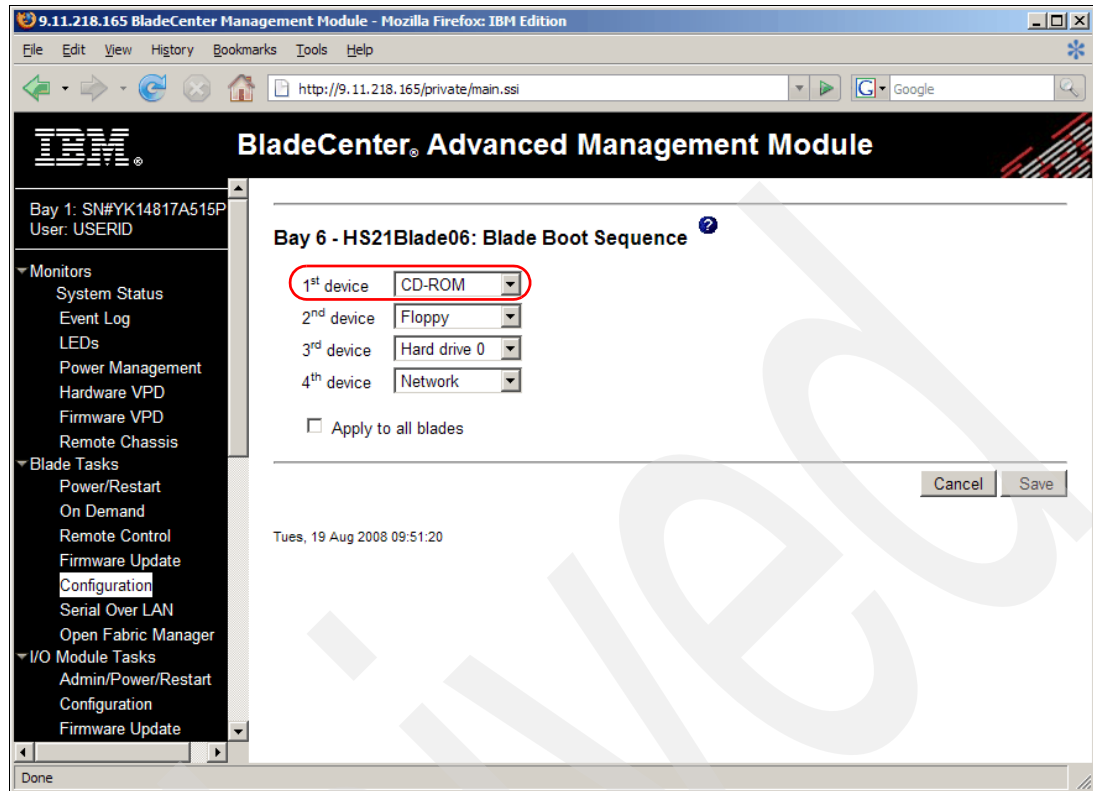

Figure 20-37 Boot device selection
1. Ensure that the boot sequence is correctly setup to boot from CD-ROM as the first device. This can be set through the Web interface of the BladeCenter Advance Management Module (AMM). Select **Blade Tasks** → **Configuration** → **Boot Sequence** (we select **HS21Blade06** for our example). Select **Save**, as shown in Figure 20-37 on page 471.